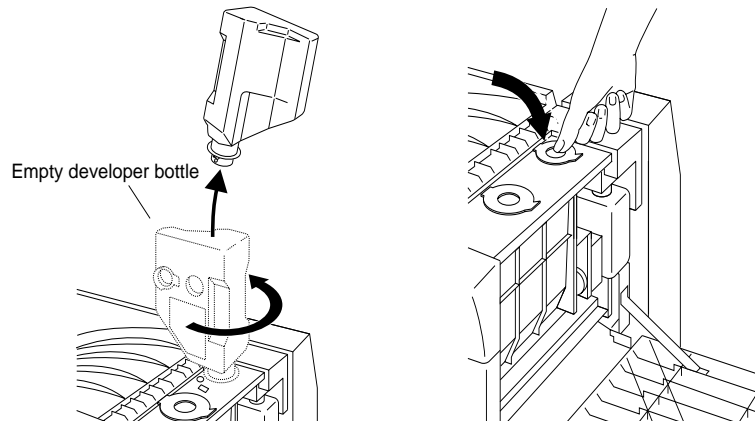

Figure 4-19 Removing the Developer Bottle and closing the Fill Flap
10. Turn the developer bottle counterclockwise 180° and remove, as shown in Figure 4-19.
11. Close the developer fill flap, as shown in Figure 4-19.